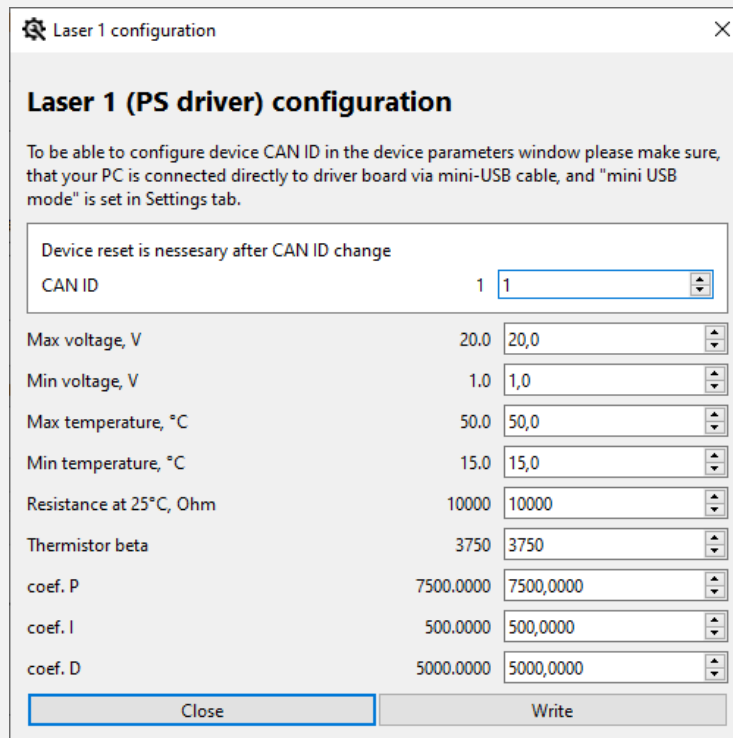

Figure 2: The laser diode setting menu
11. Click icon located in the control panel's upper right corner to enter the driver setting mode. The driver setting mode allows entering laser diode parameters and the permitted range of laser operating conditions (fig. 2).
The user can set CAN ID of the driver, the allowed ranges for the operation voltage and temperature, the values of thermistor resistance at 25 °C and beta parameter and the coefficients of the PID controller of the TEC. Available settings for picosecond drivers are shown in Figure 2. The middle column shows the current value of the parameters. To change the parameter value, enter each parameter in the settings window or change by up and down arrows and click “Write” to apply the value.